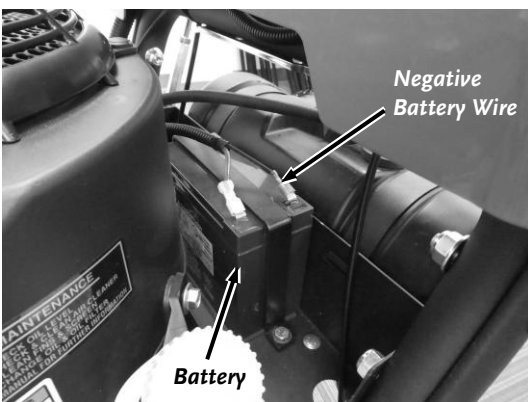

Figure 8
1. Connect the negative (black) wire to the negative terminal on the Battery by sliding the Connector onto the Terminal (**Figure 8**).